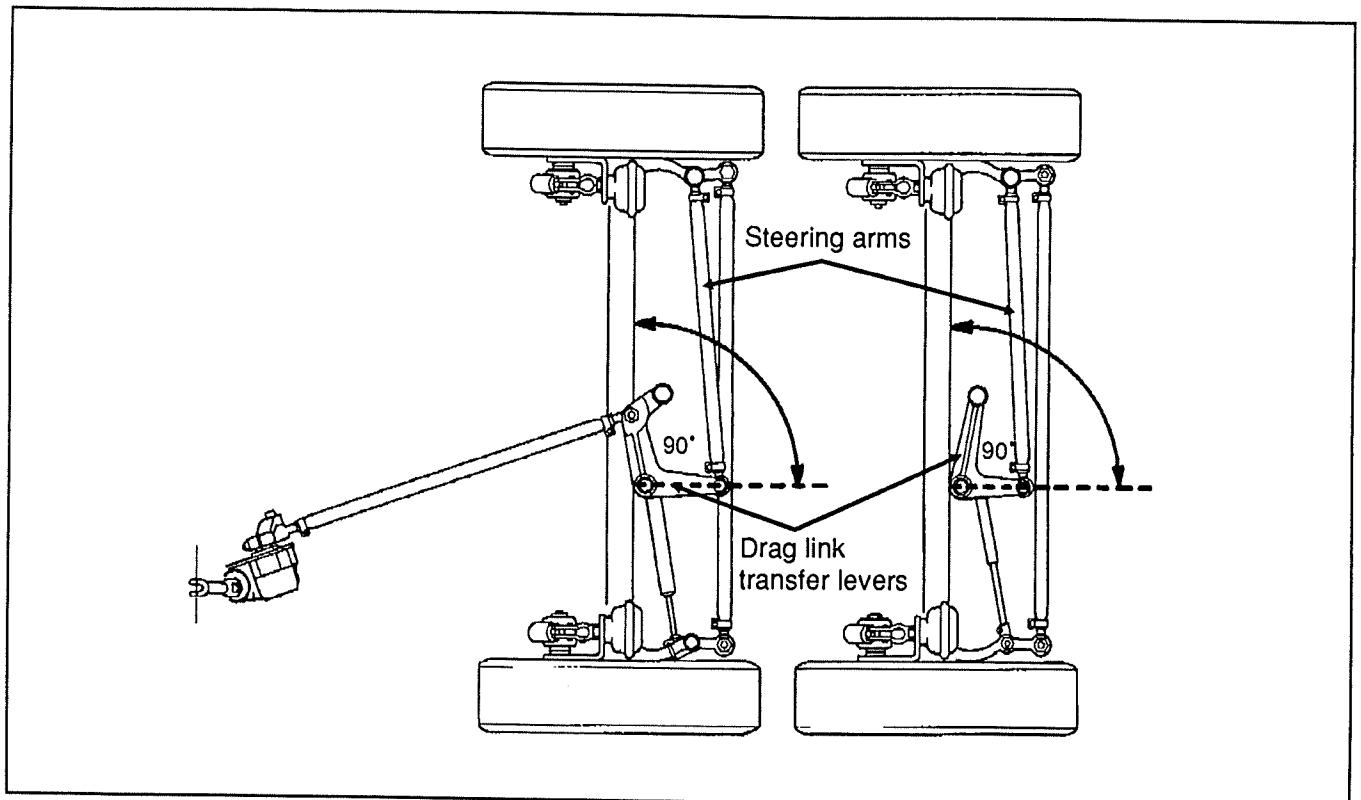

FIG. 6 - Drag link transfer lever adjustment
1. Refer to figure 6 before adjusting the angle. Using a square, scribe a reference mark in center across top of steering arm end bolt on transfer lever.